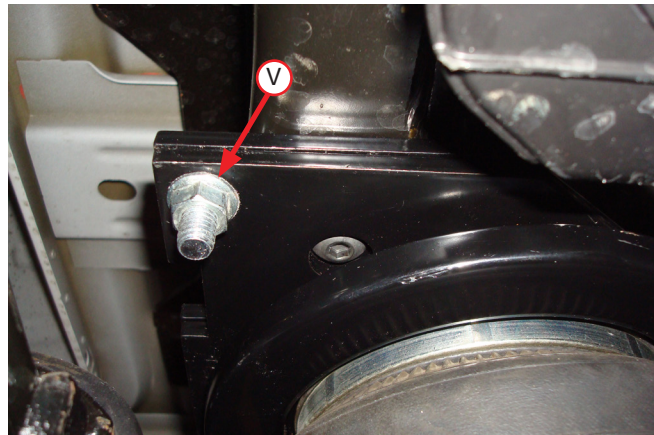

Fig. 32
- Before proceeding, ensure the 90 degree fittings are pointing inboard toward the center of the vehicle. While raising the axle or lowering the body of the vehicle, align the previously installed upper frame bracket carriage bolts (including the one on the air spring bracket) with the air spring bracket/frame brace holes so the carriage bolts protrude. Cap all the carriage bolts with the 3/8" Serrated flange lock nuts (V) (Fig. 32). Snug the bolts down first then torque to 31 lb.-ft. (42Nm).